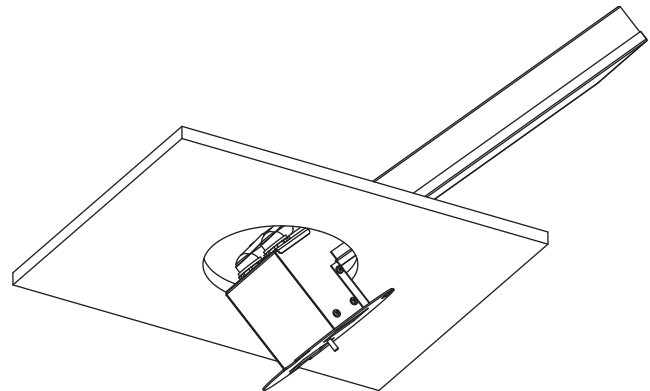
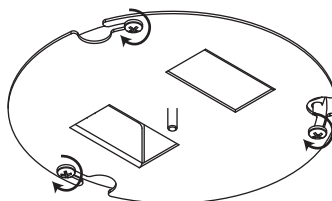

Fig. 3
Fig. 4
5. Position driver box in ceiling, mate with screws on ceiling bracket and tighten screws. Fig 3 and Fig 4